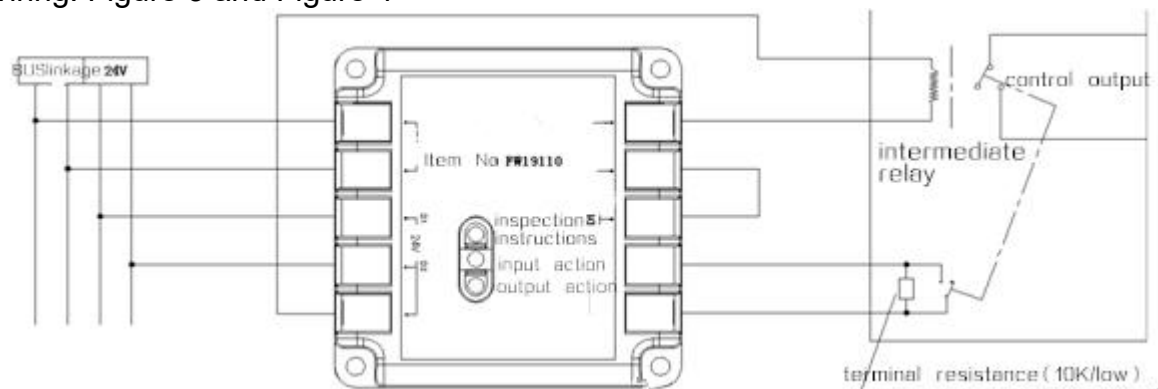
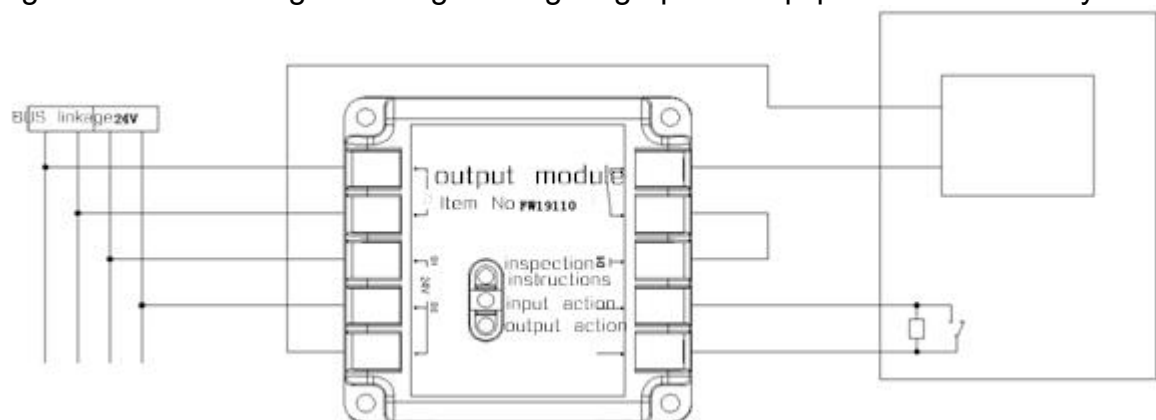

Figure 3: method diagram of high-voltage high-power equipment controlled by
Figure 4: wiring diagram
Insert a special key, you can open alarm base and the cover. Wiring as shown in Figure 3, load the manual call point to the base after wiring. Twist the screw took down from supplementary plate to fix the cover to the base, and pay attention to the installation direction, and the installation orientation logo (Figure 3)
1. The module can be installed in either a exposed way or a concealed installation. As for concealed installation, the module can be installed in the 86H50 standard embedded box, and then installed on the cover just like Figure 2 shows; for exposed way, the module installed in the terminal box which shown in Figure 3.
Figure 3 exposed wire diagram
3. Wiring: Figure 3 and Figure 4